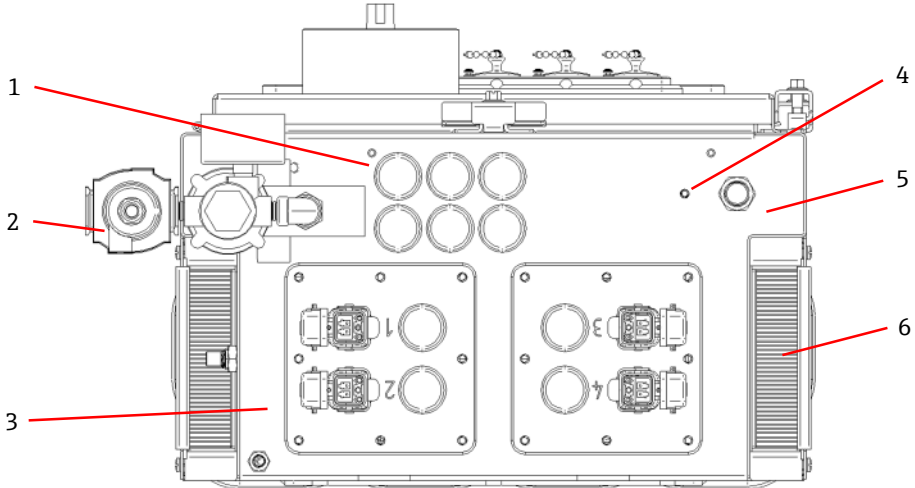

Figure 8. Glands and connectors on the bottom of the Raman Rxn5
Figure 8 shows the temperature and pressure glands for all four channels is shown below, the fiber optic connectors for all four channels, as well as the Alternating Current (AC) power input, the ground stud, the purge valve, and gauge.